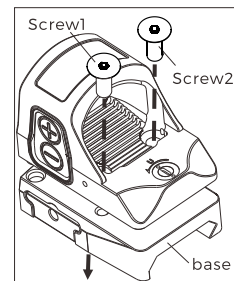

Fig 6-1
1. Remove the two screws shown in the figure 6-1 and remove the rail mount from the HS407C.